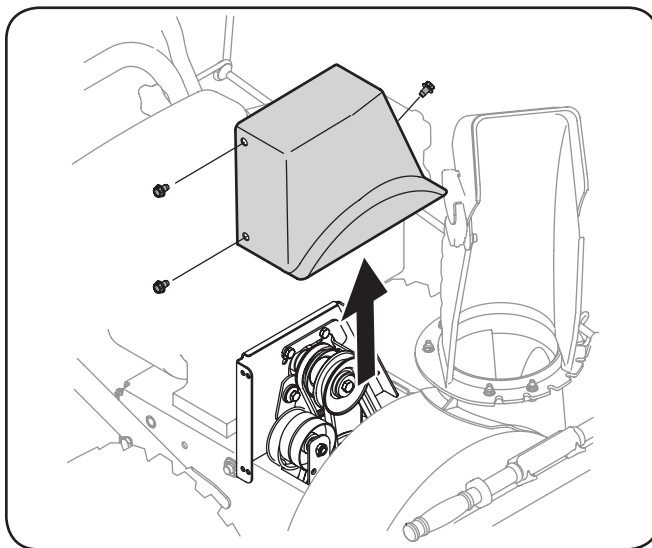

Figure 7-2
2. Remove the plastic belt cover, located near the engine, by removing the three self-tapping screws that secure it. See Figure 7-2.